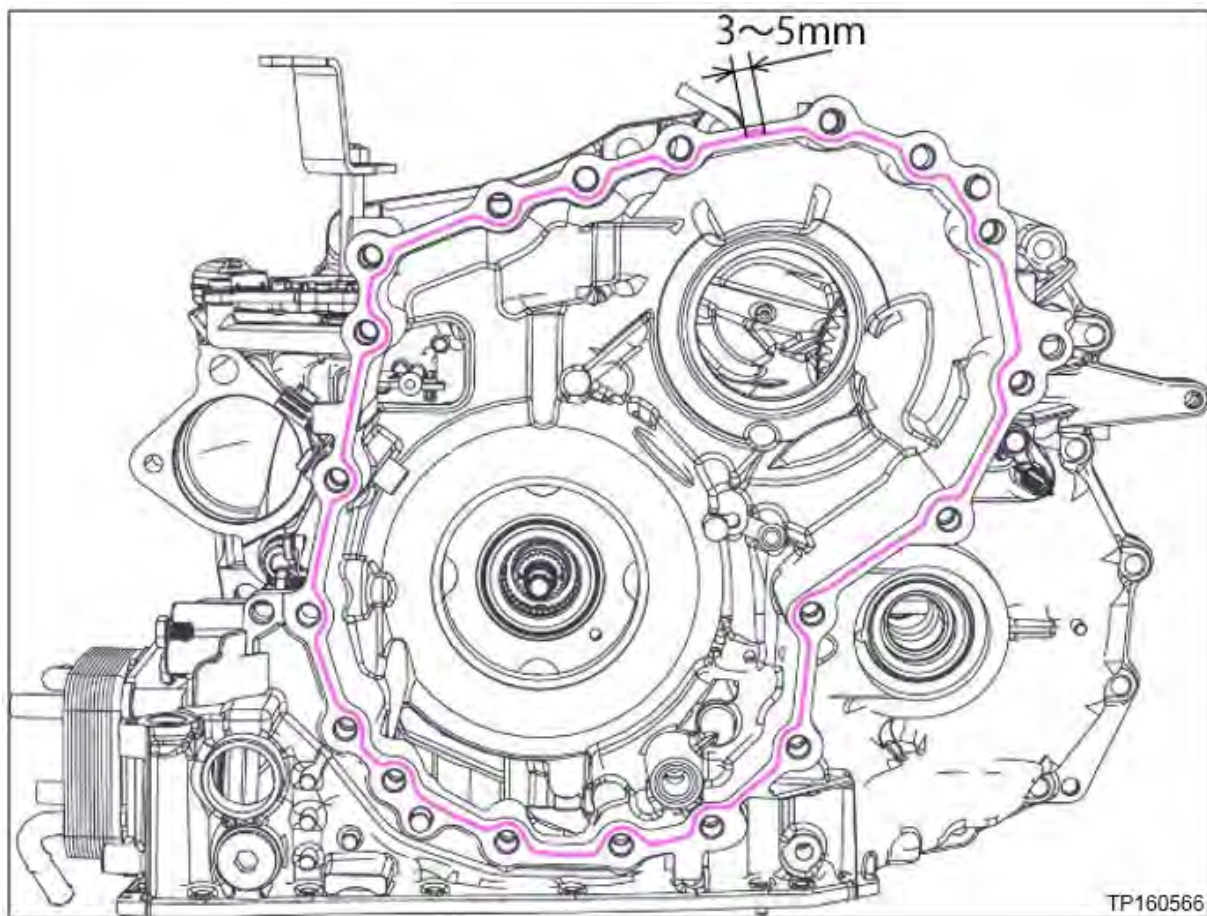

Figure 10F
3. Apply one continuous 2.0 mm diameter bead of sealant along the center of the CVT case side mating surface (Figure 10F).